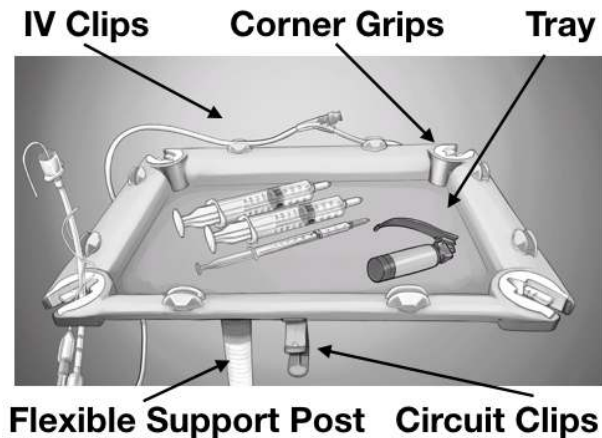

Figure 1
- Anestand is assembled by sliding the tray clip into the tray clip receptacle on the underside of the tray. (Figure 1)